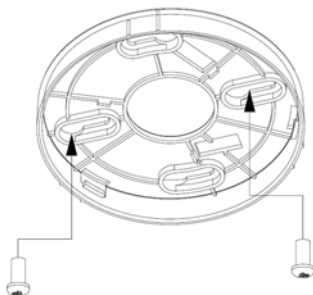

Fig. 5 – Fixing base
6. Attach the base to the ceiling with the screws supplied (see Fig. 5).